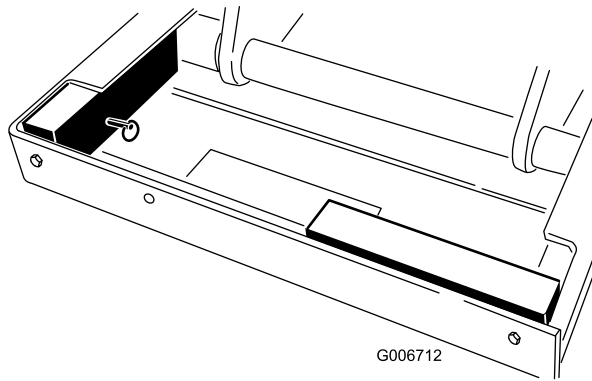

Figure 22
7. Rotate safety blocks 90 degrees in channel and secure to ends of lift frame with retaining pins (Figure 22).